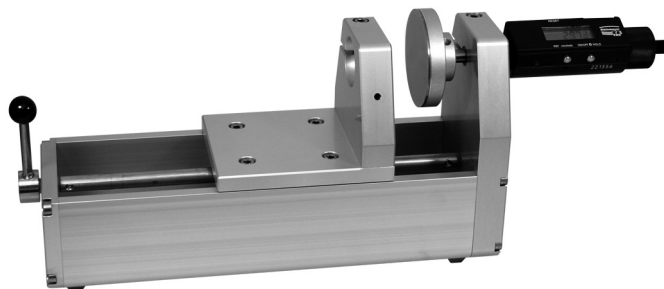

Fig. 32 Micrometer calibration device
- Special micrometer calibration device with non-rotating micrometer spindle, see Fig. 32 (available as an accessory), or